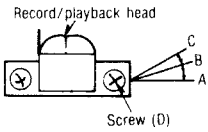
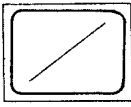

Fig. 5
Fig. 8
2. Playback the 8kHz signal from the test tape (QZZCFM). Adjust screw (D) in fig. 5 for maximum output L-CH and R-CH levels. When the output levels of L-CH and R-CH are not at maximum at the same point adjust as follows.
3. Turn screw (D) shown in fig. 5 to find angles A and C (points where peak output levels for left and right channels are obtained). Then, locate angle B between angles A and C, i.e., point where L-CH and R-CH outputs are balanced. (Refer to figs. 5 and 6.)
5. Playback the 8kHz signal from the test tape (QZZCFM). Adjust screw (D) shown in fig. 5 so that pointers of the two EVMs swing to maximum and a lissajous waveform as illustrated in fig. 8 is obtained on the oscilloscope.